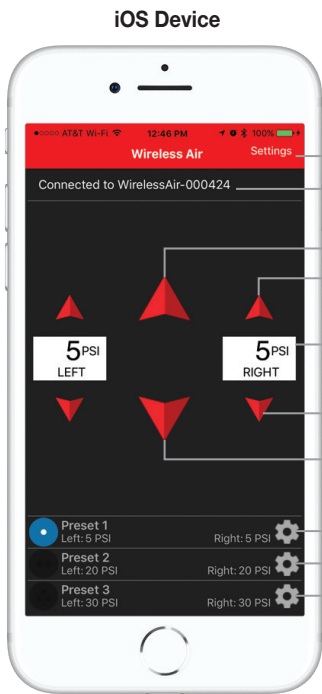

fig. C.1
1. When the app is open to the user interface, it shows the desired pressure (Fig. C.1 or C.2).